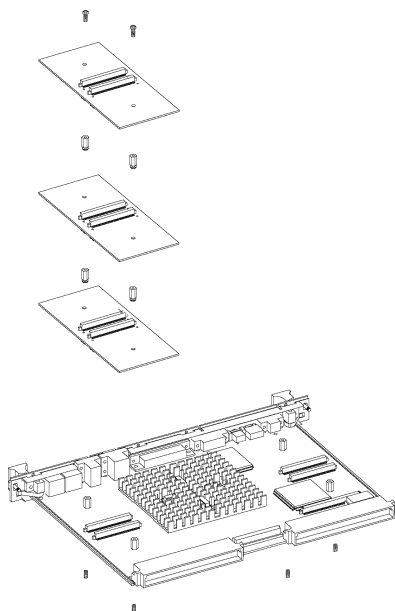

Figure 5-3 Retaining Screws and Standoffs
- 1 Remove the retaining screws from the uppermost RAM card as shown in Figure 5-3.